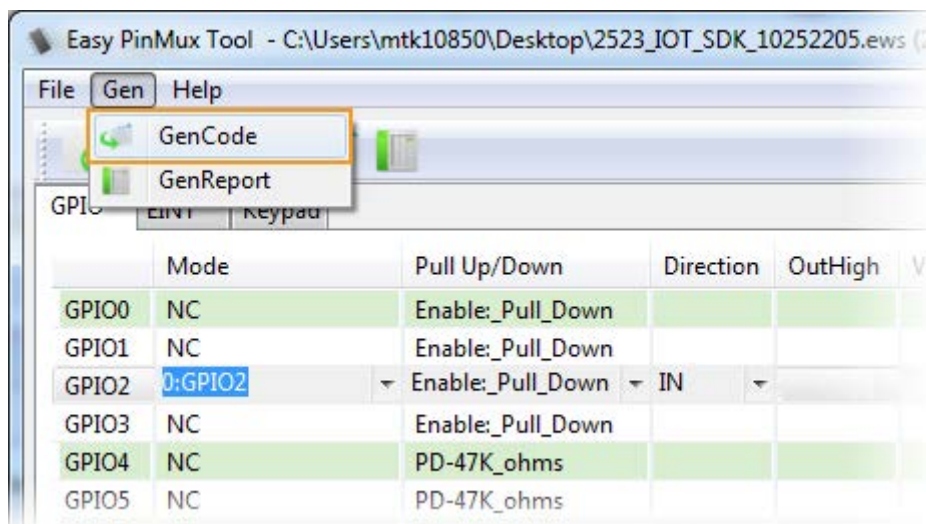

Figure 5. Generate code for the current configuration
- 1) In **Gen** menu, click **GenCode** to generate a source code for the driver. All generated files are saved in **\output\25x3(76x7)** folder. The header files (**.h** files) are saved in the sub-directory **inc**, while the source files (**.c** files) are saved in the sub-directory **src**. Once the source code is generated successfully, a popup message will prompt the file path, as shown in Figure 5.